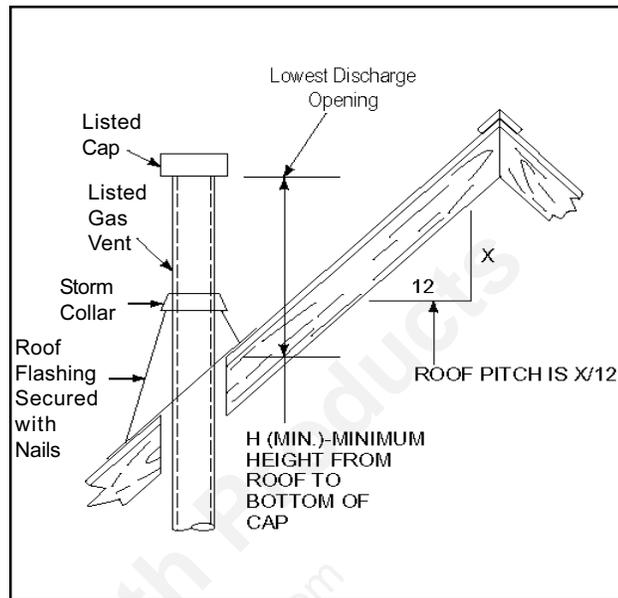

Figure 9
- j. **Termination Cap.** Major building codes specify a minimum termination height above the roof top depending on the roof pitch. See Figures 9 and 10.